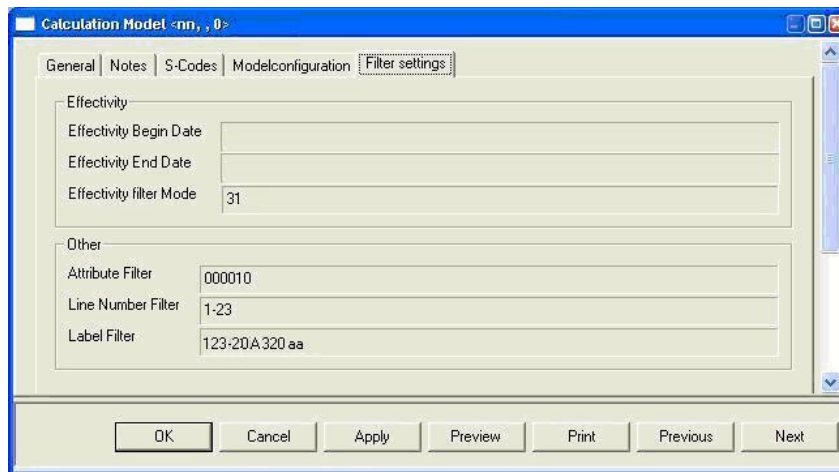

Figure 85: Context Menu on the Project Node Level
- 7) To view the label filter, click **Filter Settings** tab. *Please refer to the Figure 85.*